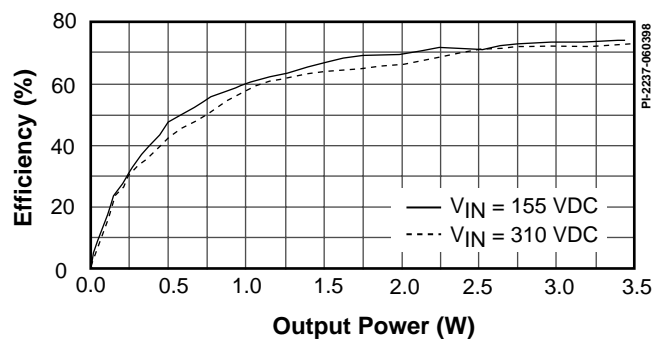

Figure 8. Efficiency vs. Output Power.
**Efficiency (Load Dependent).** The curves in Figure 8 show how the efficiency changes with output power at 155 and 310 VDC inputs. The efficiency is greater than 70% for loads greater than 2.5 W.
**Power Supply Turn On Sequence.** An internal switched, high voltage current source provides the initial bias current for TOPSwitch when power is first applied. The waveforms shown in Figure 8 illustrates the timing relationship between the high voltage DC bus and 5 V output voltage for the RD7 circuit. Capacitor C1 charges to the DC input voltage before TOPSwitch turns on. The delay of 130 ms (typical) is caused by the time required to charge the auto-restart capacitor C5 to 5.7 V. At this point the power supply turns on as shown.